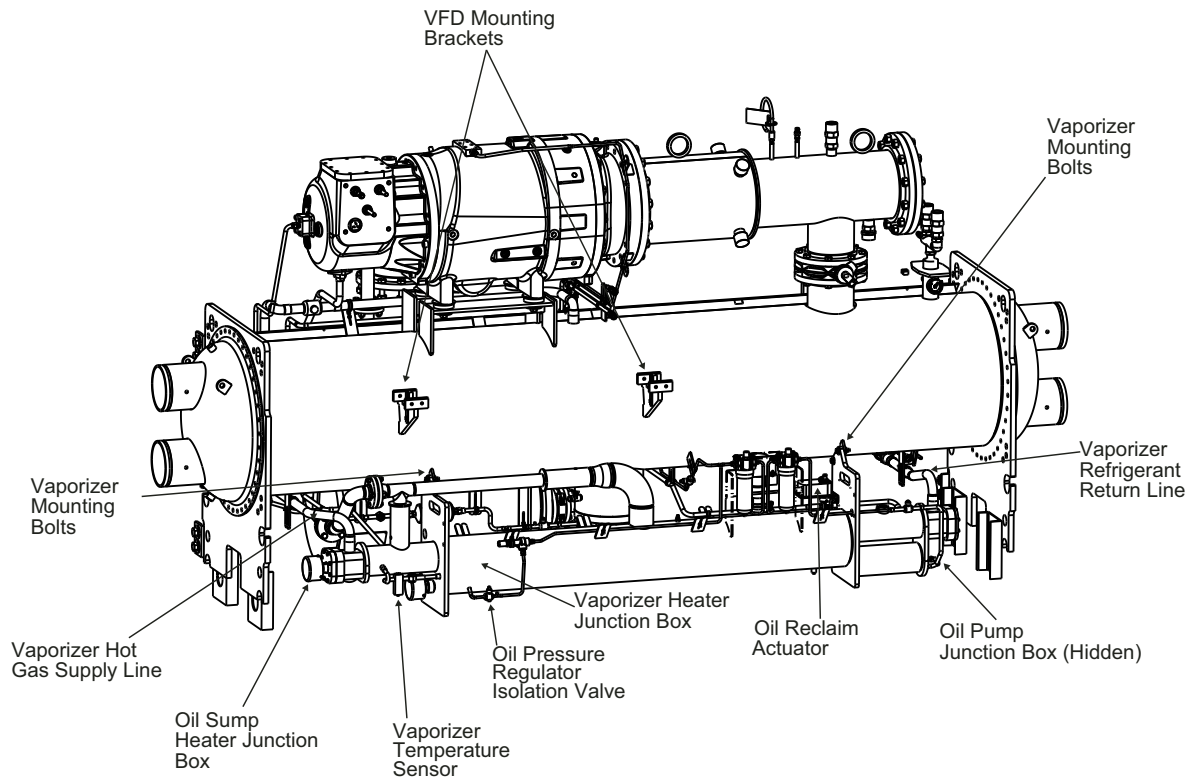

Fig. 30 — Oil Concentrator Removal, Q and R Compressors (Unit with R Compressor Shown)
The VFD mounting brackets (Fig. 30 and 31) extend beyond the outboard edge of the tubesheet. The vaporizer extends beyond the perimeter of the condenser tubesheet.
1. Cut the vaporizer hot gas supply line near the oil concentrator (Fig. 30 and 31).
- d. vaporizer heater cable in the vaporizer heater junction box (Fig. 30 and 31)
- f. oil sump heater conduit from its junction box (Fig. 30 and 31)
- g. vaporizer temperature sensor (Fig. 30 and 31)
8. Rig the vaporizer with the lifting points on the vaporizer mounting bracket and remove the 4 bolts that secure it to the condenser (Fig. 30 and 31).